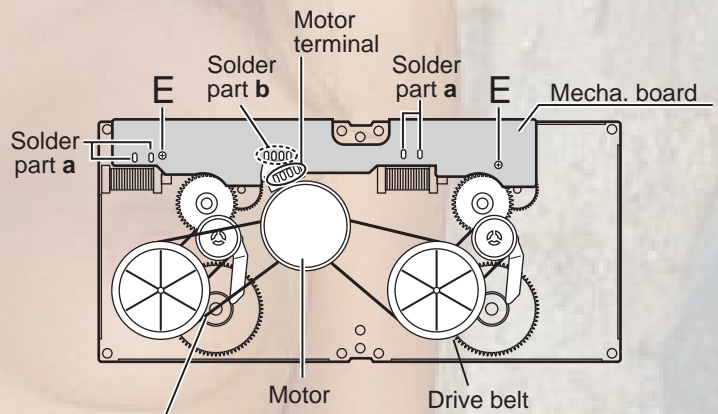

Fig.5
**Removing the mechanism board (See Fig. 5)**